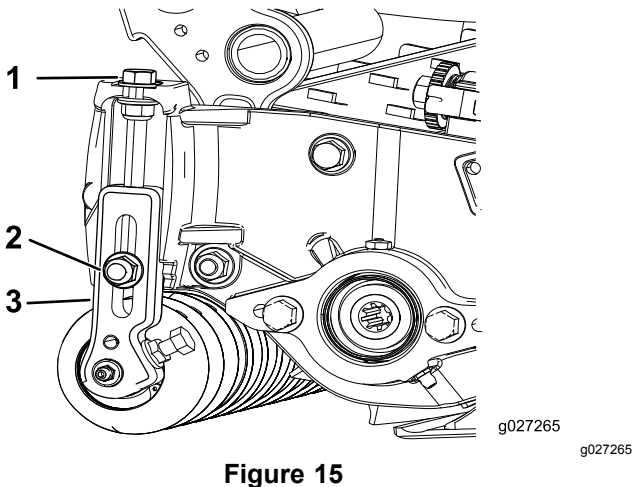

Figure 15
1. Loosen the locknuts securing the height-of-cut brackets to the cutting-unit side plates (Figure 15).